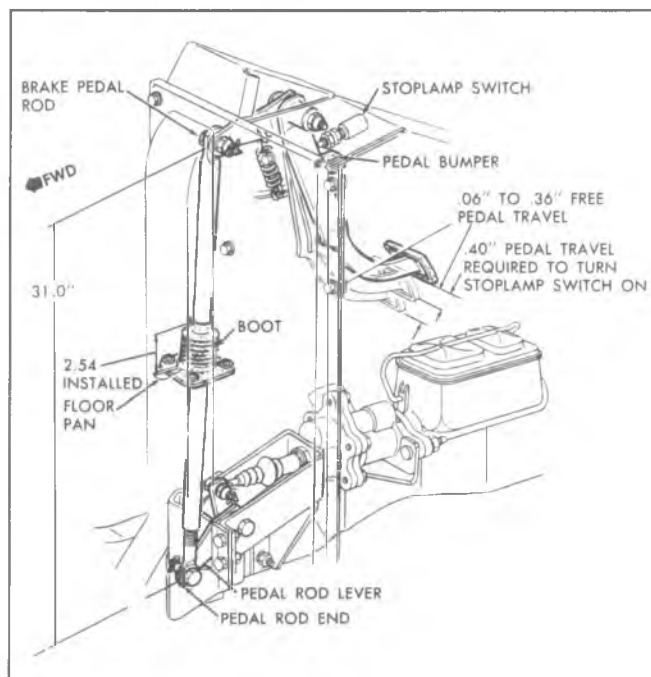

Fig. 5-13--Brake Pedal and Stop Lamp Adjustment P30(32) Model
Replacement (Fig. 5-13)
11. Fasten the boot to the floorpan and compress the boot to 2.54" installed height; tighten the boot to 2.54" installed height; tighten the boot screws to 13-18 in. lbs. (Refer to Figure 5-13).